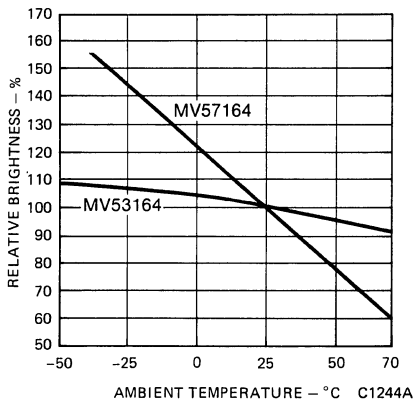

Fig. 3. Luminous Intensity vs. Temperature (See Note 2)
2. *The curve in Figure 3 is normalized to the brightness at 25°C to indicate the relative efficiency over the operating temperature range.*